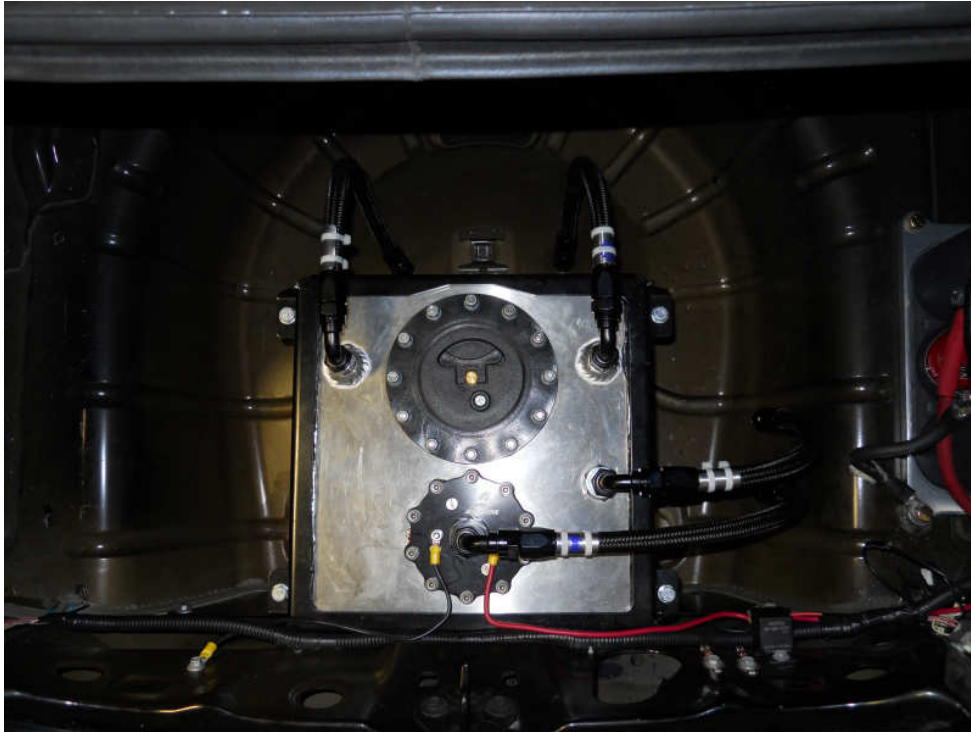

Figure 1-1
- 1-5. Find a suitable place in the trunk to mount the fuel cell. For mounting use Aeromotive bracket P/N 18701, or call Aeromotive. Here is a typical install of a fuel cell in a SN197, **Figure 1-1**.